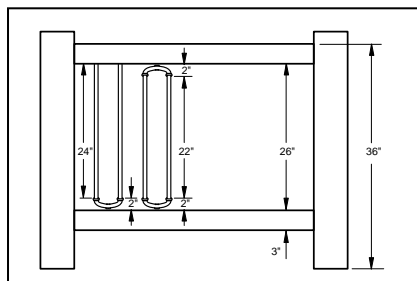

Figure 1
Step 1: Measure the space between the top and bottom rails. Each Duo Connector will add 2" between the baluster and rail. When mixing Duo Connectors with full-length balusters, some balusters may need to be trimmed 2" or 4" to allow space for the Duo Connectors. Trim balusters as required. (Figure 1)